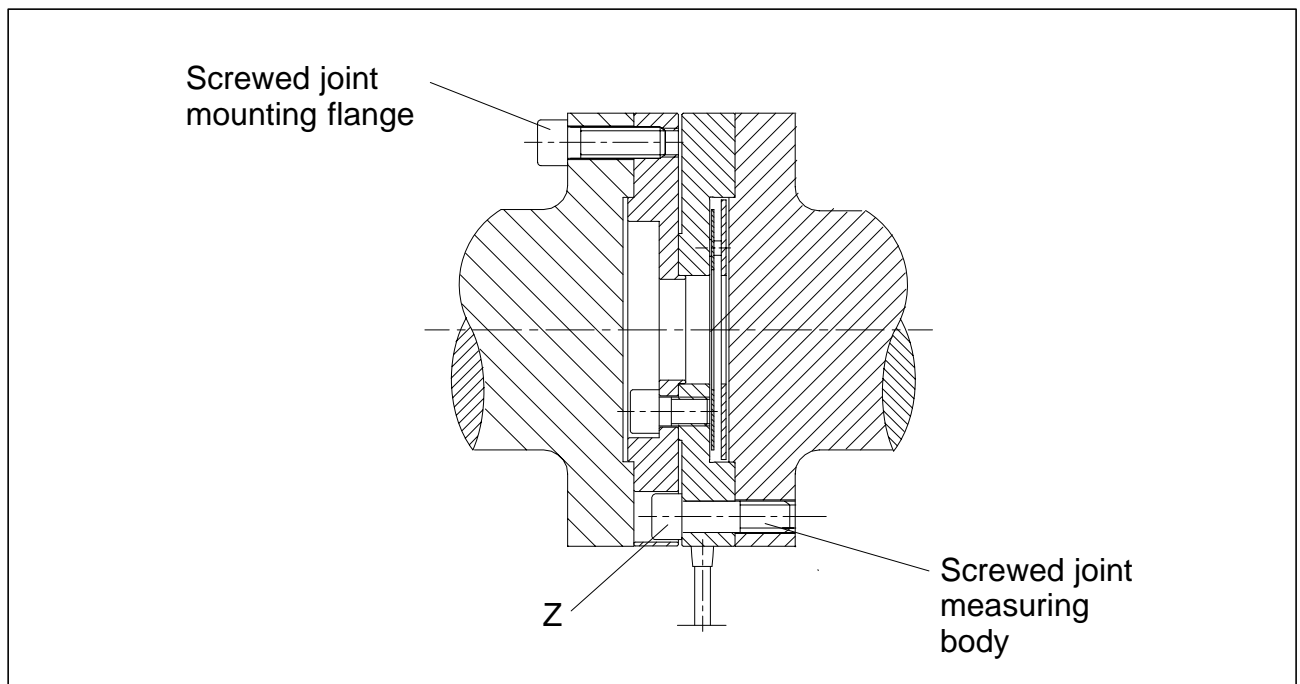

Fig.4.3: Screwed joint of the measuring body
The screw heads (Z), see Fig.4.3, must not sit on the mounting flange. With alternating loads: glue all the connection screws into the counter thread with a screw locking device (medium) to exclude a pretension loss due to screw slackening.